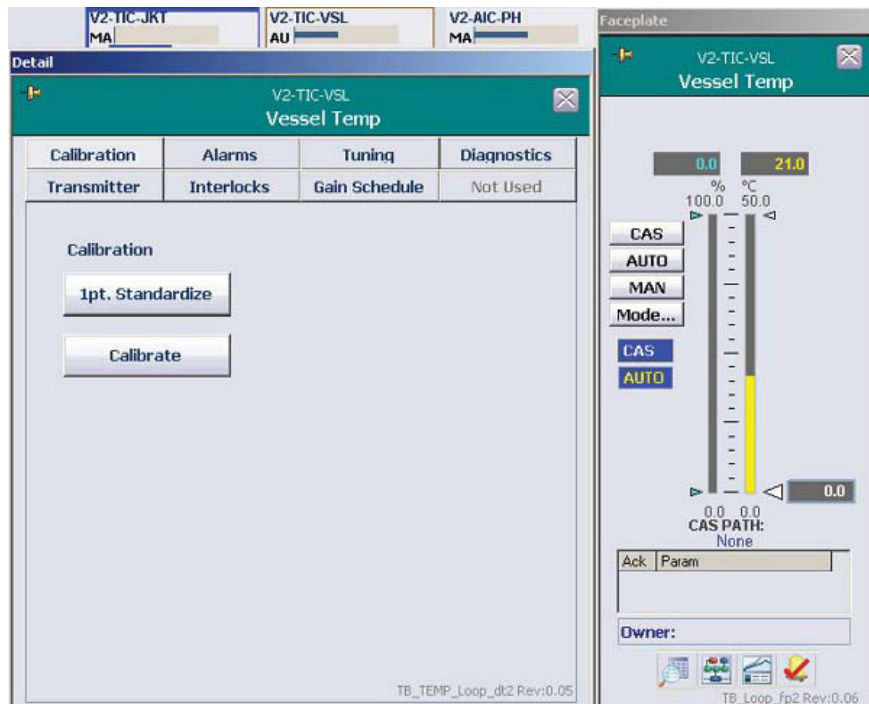

Figure 2.30. Vessel Temp faceplate.
4. Open the “Calibration” tab. Click **Calibrate** and then move the screen so that the faceplate can be accessed (Figure 2.30).